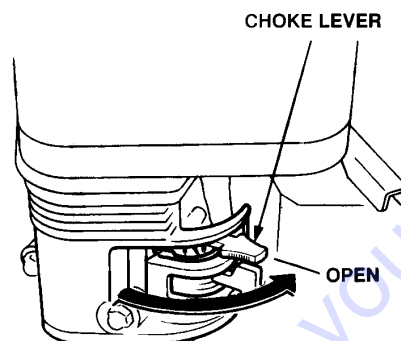

Figure 29. Choke Lever Open
4. Place the **choke lever** (Figure 29) in the "OPEN" position.